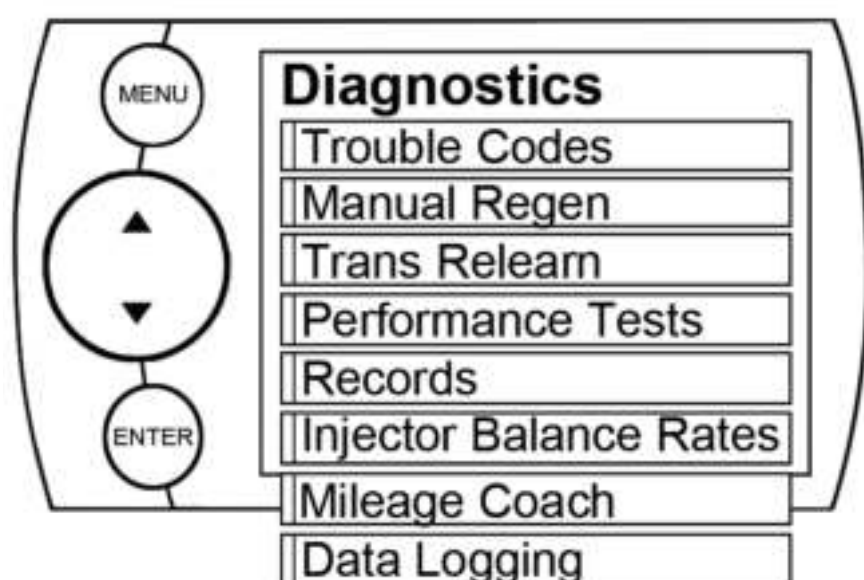

Figure 7
NOTE: Not all options in Figure 7 will be available. The availability of these options will vary due to the product you purchased and your vehicle.
- 1. Selecting the **Manual Regen** option in the **Diagnostics** menu. (Figure 7)